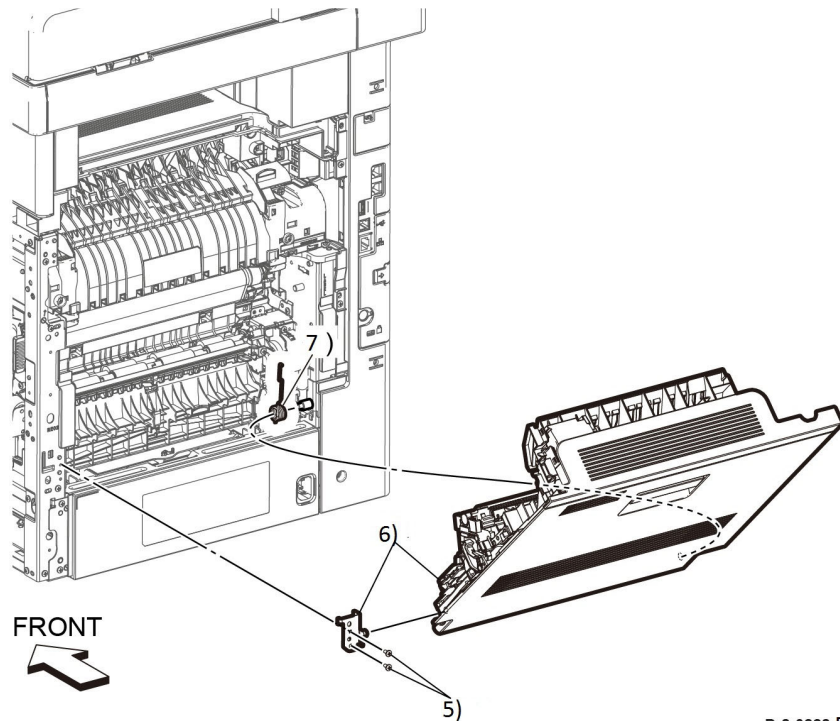

Figure 2 Rear cover assembly removal
3. Remove the rear AIO cover assembly, Figure 2:
- b. Remove two screws (5) holding the right rear hinge assembly (6), then remove the right rear hinge assembly and the rear cover assembly.
- c. Remove the rear cover spring (7).